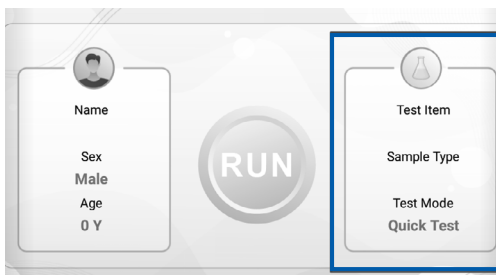

Fig. 5.5.9 Item Information Frame
Step 1 If necessary, Touch the item information frame (see Fig. 5.5.9) and choose the “Standard Test” mode.